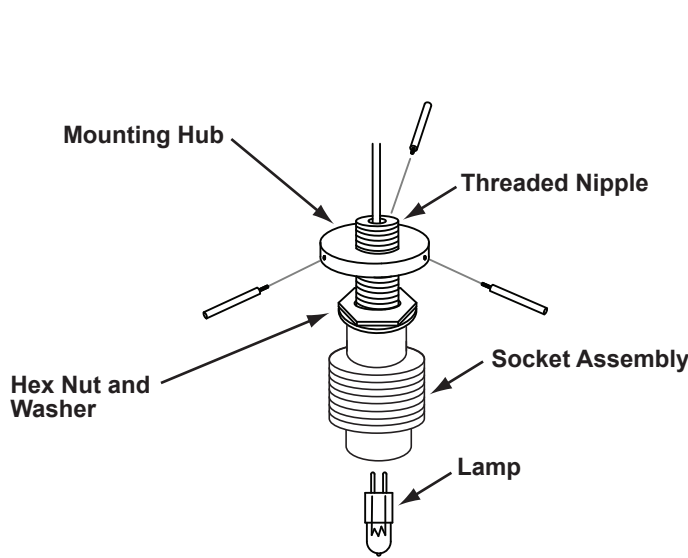

Figure 1
1. Begin by threading the Threaded Nipple into the top of the Socket Assembly and secure using the Hex Nut and Washer provided. Then install the Mounting Hub on the Threaded Nipple until the Hub rests on the Hex Nut. See figure 1.
While holding the Lampholder secure, hold the Lamp by the base, just above the contacts, and firmly push the lamp into the socket. See figure 1.